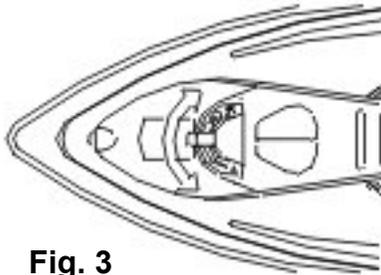

Fig. 3
- Set the variable steam control (2) TO “0”. (Fig. 3)
- Make sure that the iron is resting on top of the rubber mat (10).